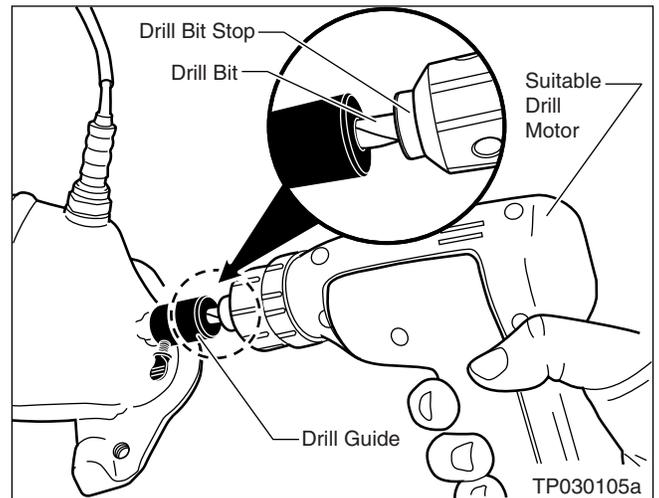

Figure G3
3. Drill out the broken screw with the special Drill Bit from the Thread Repair Kit (see Figure G3).